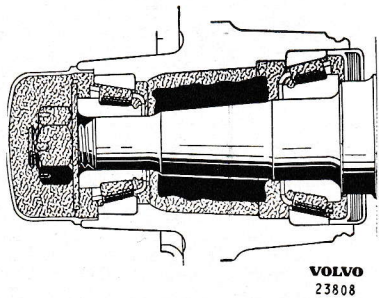
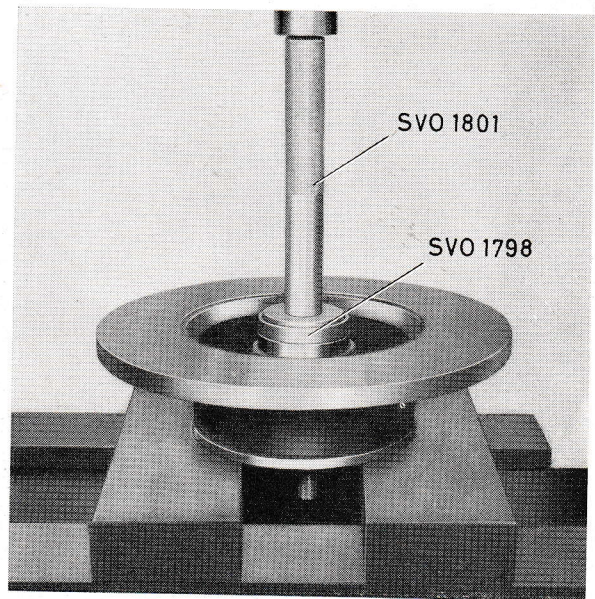

Fig. 14. Lubricating front wheel bearing.
Fig. 15. Fitting sealing ring.
8. Press grease into the bearings with the help of a pressure lubricating apparatus. If one of these is not available, pack grease into the bearings by hand so that the space between the roller retainer and bearing inner ring is completely filled. Also coat the outer sides of the bearings and the outer rings pressed into the hub with grease. The recess in the hub should be filled up with grease all round up to the smallest diameter of the outer ring for the outer bearing, see Fig. 14. Place the inner bearing in position in the hub. Press in the sealing ring with drift SVO 1798 together with standard handle SVO 1801 (Fig. 15).